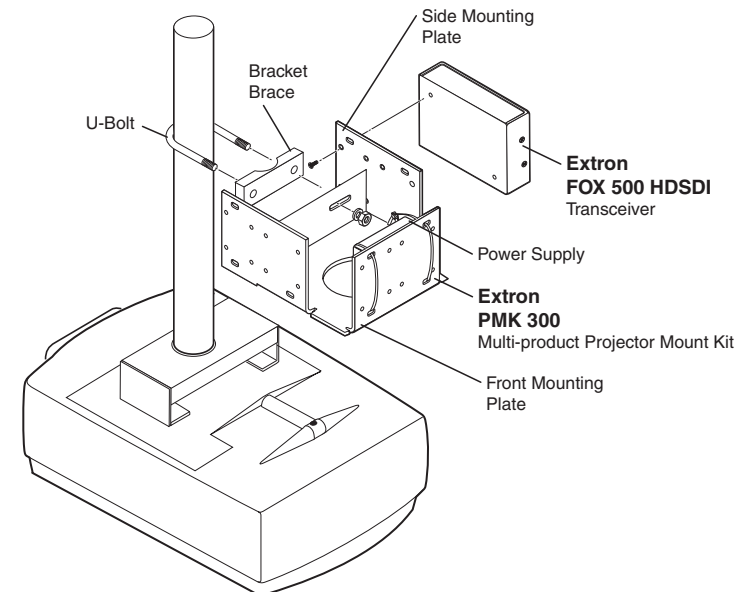
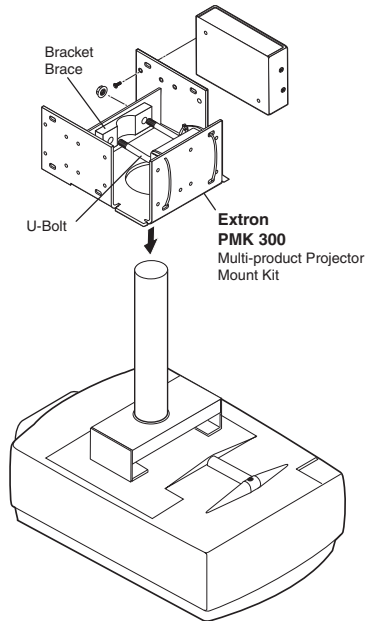

Figure 2-5 — PMK 300 projector mounting a transceiver
Figure 2-6 — Projector pole on the inside
2. Mount the transceiver to one of the bracket's three mounting plates using two of the supplied 4-40 x 3/16" screws in opposite (diagonal) corners to secure the device to the bracket. It can be vertically mounted facing either up or down (figure 2-5).
NOTE The PMK 300 has a hole in the bottom plate that allows the projector pole to be inserted through the center of the plate (figure 2-6), rather than outside of the plate (figure 2-5). To install the PMK 300 in this configuration, slide the bracket up from the bottom of the pole before the projector is installed on the pole.